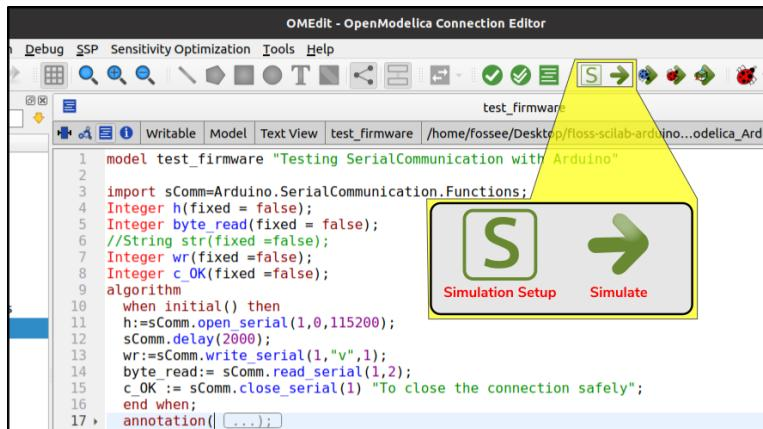
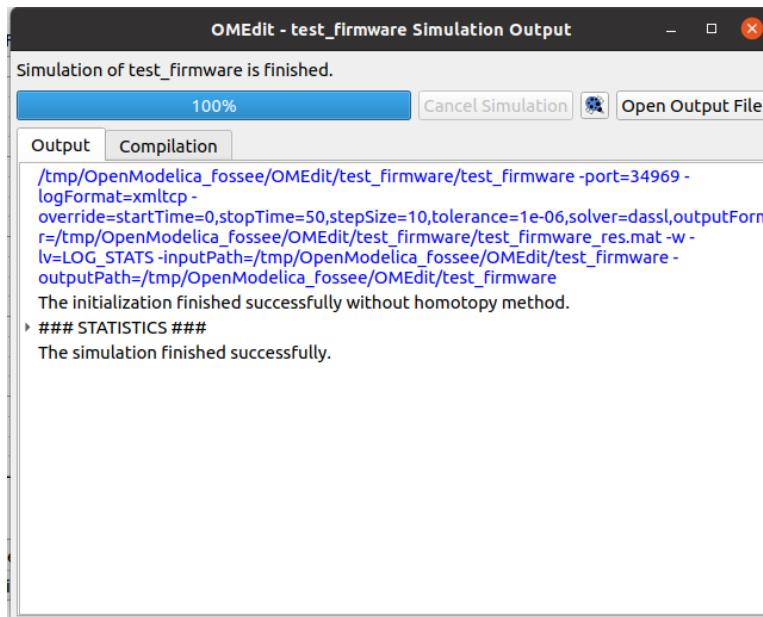

Figure 3.42: Simulating a model in OMEdit
Figure 3.43: Output window of OMEdit
Now, we will see how to simulate this model. For this, we need to ensure that OMEdit is in Modeling Perspective. Next, we will click on the green right-sided arrow, named as Simulate, as shown in Fig. 3.42. When we click on Simulate, OMEdit will first compile the model and then, it will simulate the model for the time specified in the model itself. As OMEdit provides an elegant user interface for simulating the models, it will open an output window the moment you click on Simulate. Fig. 3.43 shows the output window after the simulation of our model is finished. Also, we can observe that the OMEdit is now in Plotting Perspective.
As shown in Fig. 3.43, OMEdit displays the message that "The Simulation finished successfully". Had there been any
**OpenModelica Code 3.1** An OpenModelica code/model to check whether the firmware is properly installed or not. Available at Origin/tools/openmodelica/windows/test\_firmware.mo, see Footnote 2 on page 3. Locate this file inside OpenModelica-Arduino toolbox, as explained in Sec. 3.6.4. Simulate this code/model by following the steps given in Sec. 3.6.3. If the simulation is successful, you should expect an output window in OMEdit as shown in Fig. 3.43.